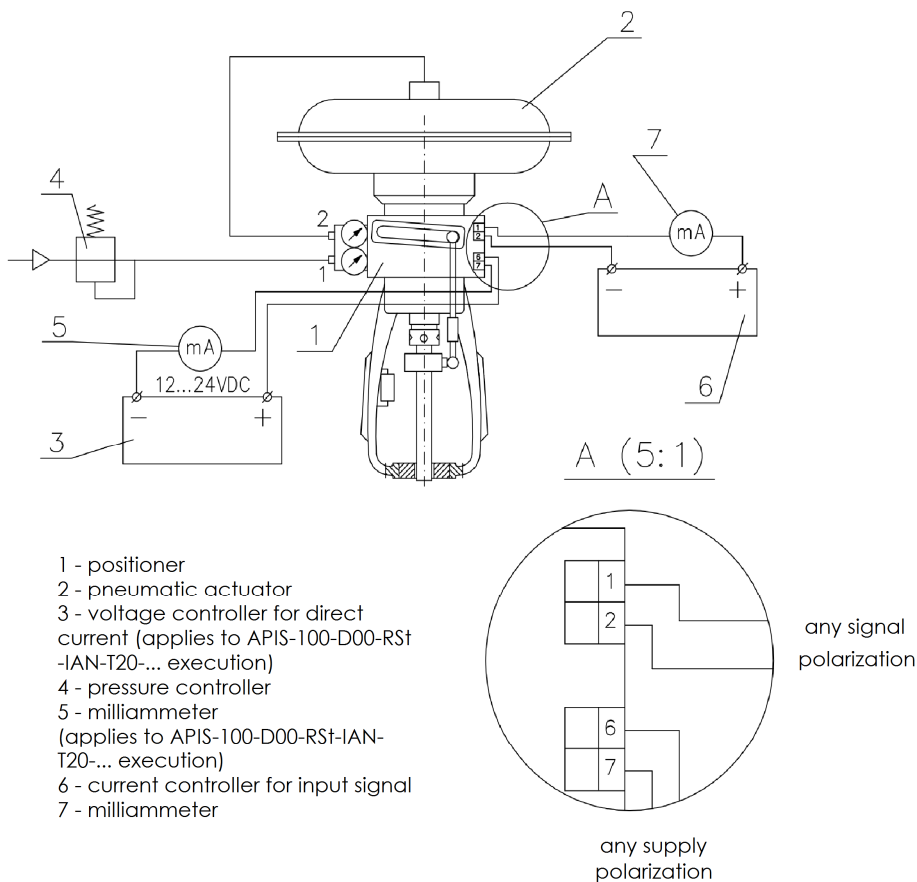

Fig. 18. Diagram of meter circuit for starting of the APIS-100-.... positioner
- a) - Positioner APIS-100-... installed on positioner acc. to point 9.2...9.4 we connect with meter circuit acc. to the diagram shown on Fig. 18.